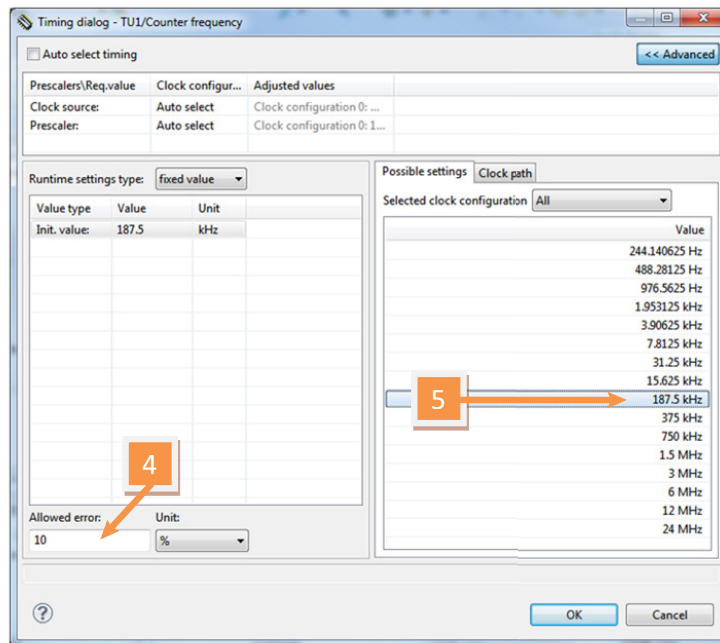

Figure 24. Component TimerUnit\_LDD Timing dialog — select Input Frequency
- Set the **Allowed Error** value at 10% (see Figure 24).